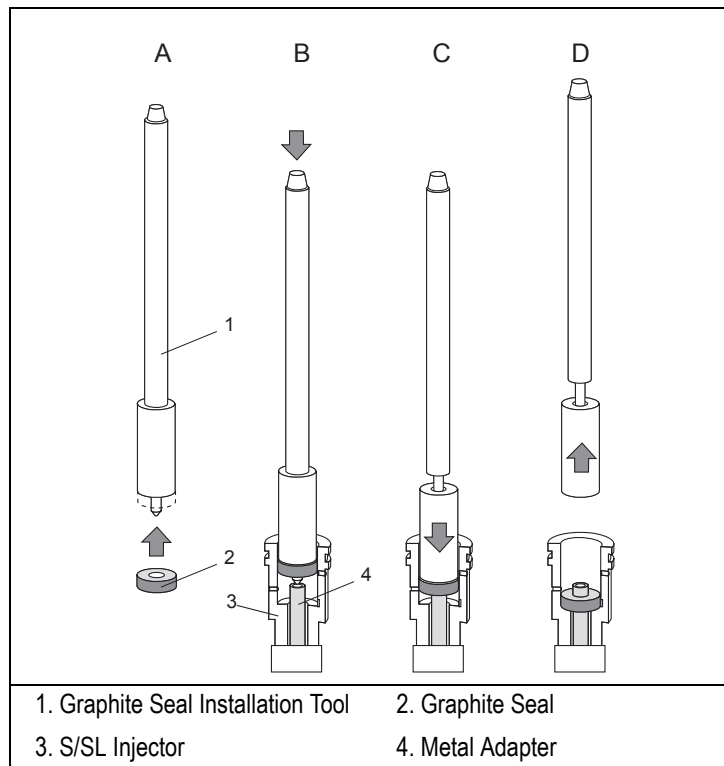

Figure 7-9. Graphite Seal Installation Tool
- d. Slide the appropriate graphite seal and push it onto the metal adapter from the top of the injector by using the appropriate tool as shown in Figure 7-9.